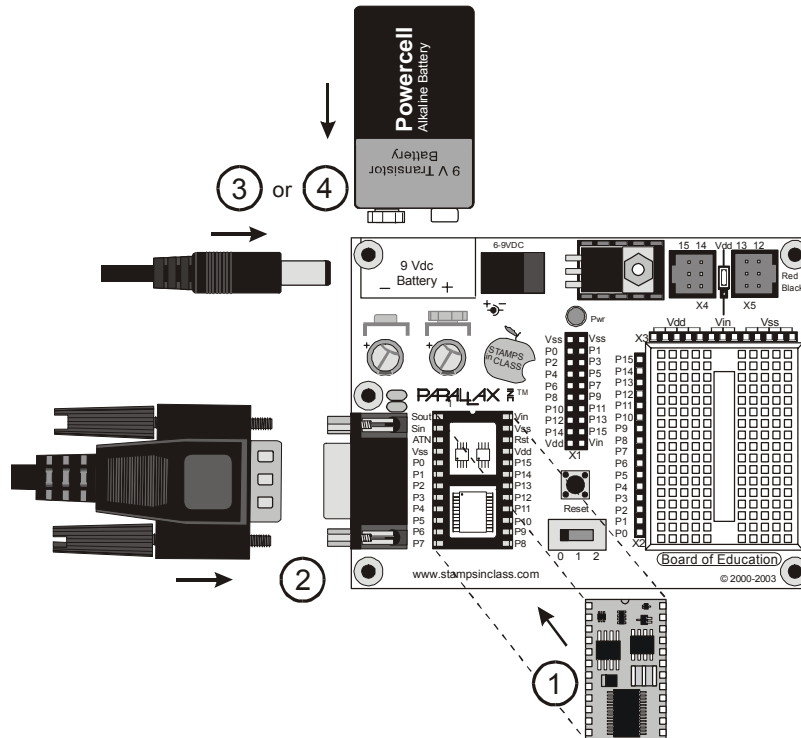

Figure 1-28
i **Only the Board of Education Rev C** has a 3-position switch. To turn off power on a Board of Education Rev B, simply disconnect the power source by either unplugging the DC supply or the battery. These are shown in Figure 1-28, step 3 or 4.
- ✓ If your BASIC Stamp module is not already plugged into your Board of Education, insert it into the socket, oriented as shown in Figure 1-28, step-1. Make sure the pins are lined up properly with the holes in the socket and not folded under, then press down firmly.